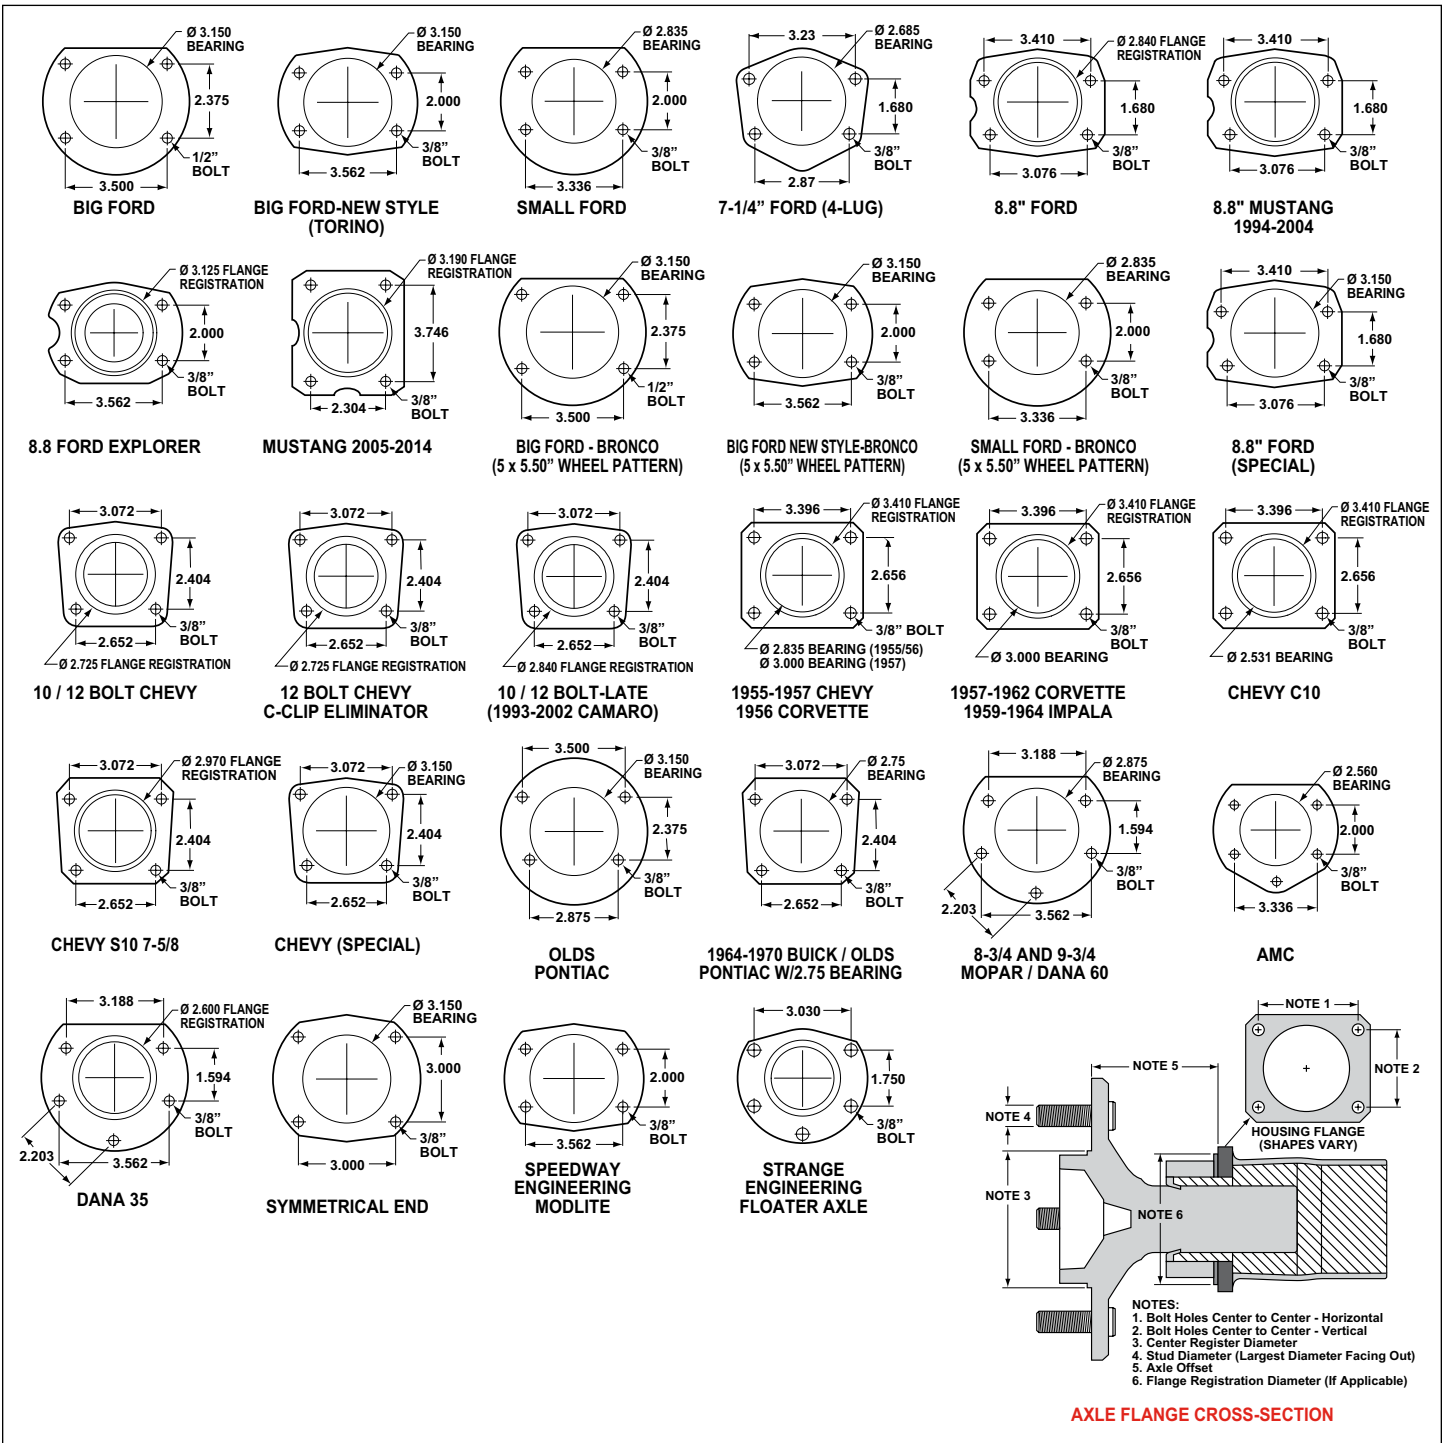

Figure 5 Rear Housing Flange Chart and Axle Flange / Offset Cross-Section
- Make sure this is the correct kit to fit the axle housing flange, not necessarily the rear end make. Many times after market manufacturers put a different make of axle housing flange on the stock rear end housing (see Figure 5). Example; Big Ford rear ends with Olds-Pontiac flanges, therefore, an Olds-Pontiac rear disc brake kit would be the correct kit to order. Also, shock clearance may be a problem. They may have to be modified and/or relocated to clear the Wilwood kit after final assembly.
- Dimension from wheel side of axle flange to wheel side of axle housing flange (see Figure 5, lower right hand corner). This dimension is critical to ensure proper alignment of the rotor to the caliper, and should match offset given in the kit description.